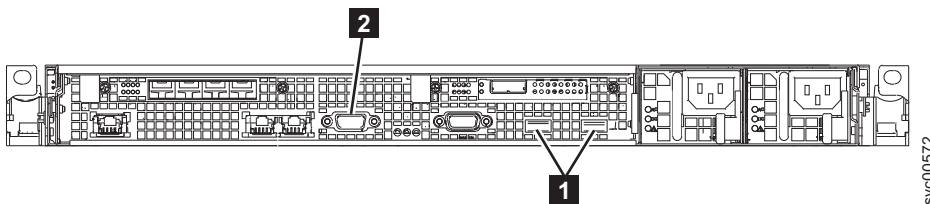

Figure 97. Keyboard and monitor ports on the SAN Volume Controller 2145-CF8
- b. Connect the keyboard and the display. Figure 97 shows the location of the keyboard and monitor ports on the 2145-CF8. Figure 98 shows the location of the keyboard and monitor ports on the 2145-CG8. Connect to the VGA port and a USB port on the front or the back of a 2145-DH8.